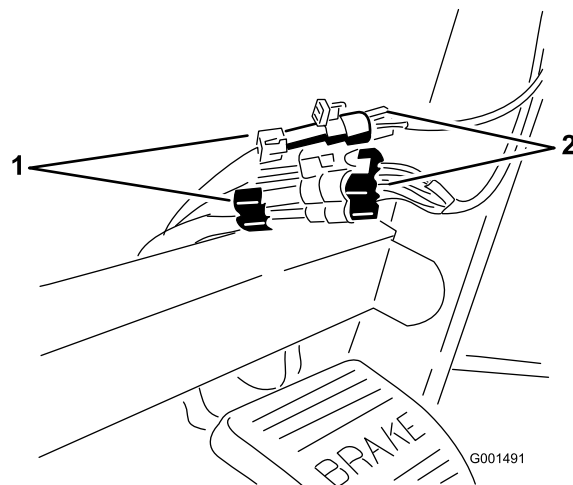

Figure 7
7. Connect the Spray Pro wire connectors to the wire connectors located under the dash (Figure 7).